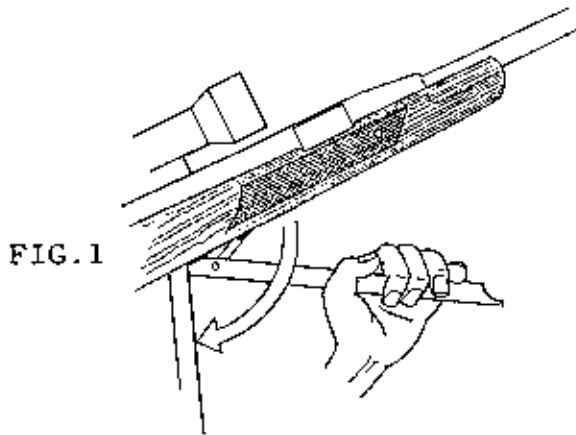
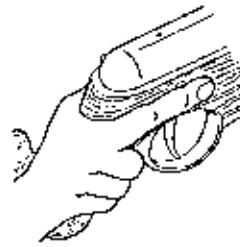

FIG.1
FIG.1A
1) TO COCK THE RIFLE HOLD SECURELY IN ONE HAND AND WITH THE OTHER PULL THE COCKING LEVER DOWNWARDS (FIG.1) UNTIL THE TRIGGER MECHANISM ENGAGES AND THE SAFETY CATCH BUTTON POPS OUT. THE BUTTON HAS AN INDICATION GROOVE, COLOURED GREEN, TO SHOW WHEN IT IS CORRECTLY ENGAGED. BE SURE THAT YOU DO NOT OBSTRUCT THE SAFETY CATCH BUTTON AND PREVENT IT FROM WORKING DURING THE COCKING PROCESS. IF YOU HOLD THE RIFLE BY THE PISTOL GRIP WHILST COCKING, ENSURE THAT YOUR FINGER IS NOT ON THE TRIGGER (FIG. 1A) OR YOU MAY ACCIDENTLY CAUSE THE RIFLE TO FIRE DURING THE LOADING SEQUENCE.